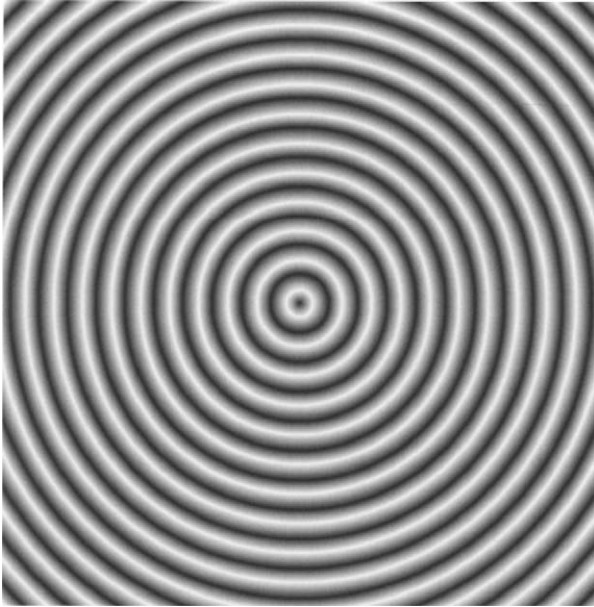

Figure 4.20. Bullseye drawing.
- To assist in training the drives, I produced a ‘bulls-eye’ drawing and placed it as far away as possible from the telescope (more than 100 m, the further away the better the accuracy). Used in conjunction with the crosshair eyepiece it can greatly enhance the accuracy of the training. You can create a ‘bulls-eye’ image (example shown in Figure 4.20) using most commercial software paint packages or an old fashion pencil and compass to draw concentric circles.